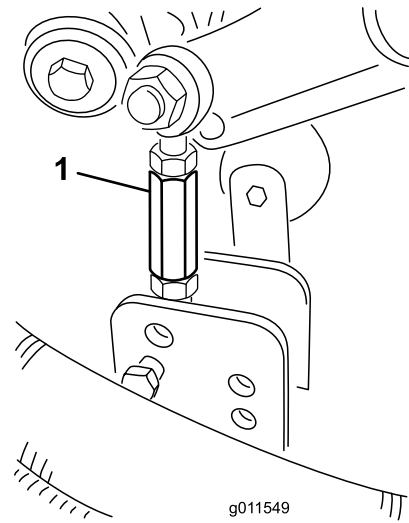

Figure 22
- Remove the hairpin cotters and clevis pins securing the damper links to the mower-deck brackets (Figure 22).